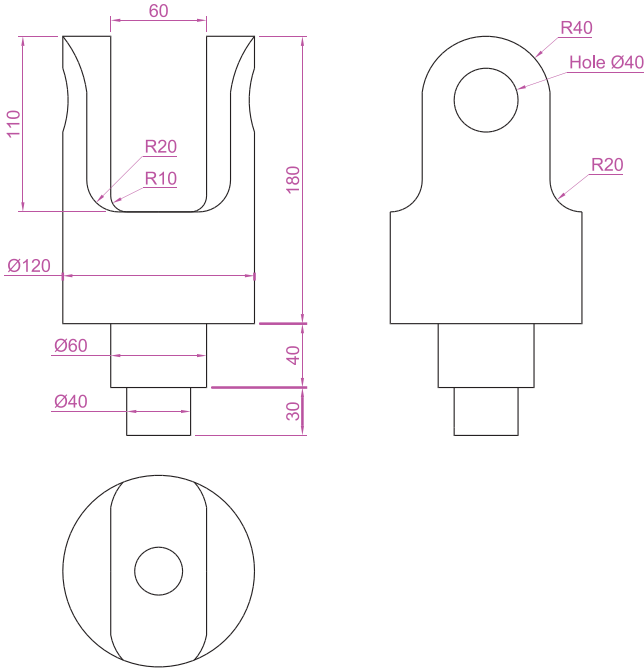

Fig. 7.4 Front and end views and plan of the solid
3. Draw what is seen when the solid is viewed from above the front view. This produces a **plan**. Figure 7.4 shows the plan below the front view.